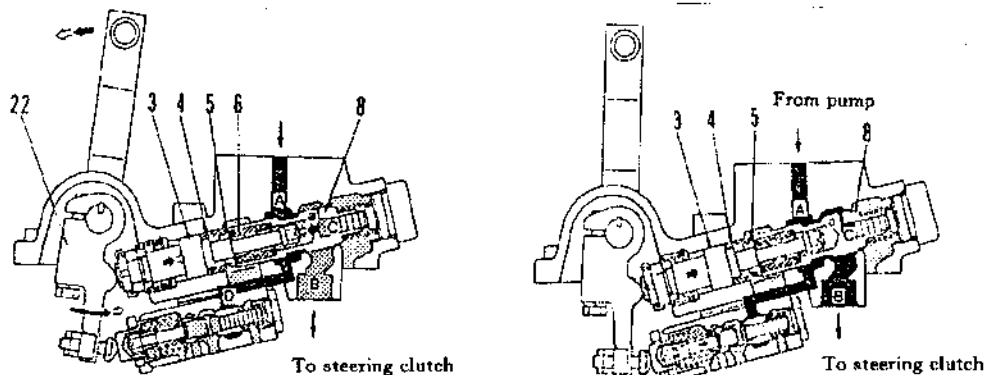

Fig. 2-73
(3) When the oil pressure at the steering valve rises to the maximum value:
When the steering lever is pulled further from state mentioned in paragraph 2, stopper (5) comes into contact with steering valve (8) and spring (6) assumes the minimum installation height. In this state, shaft (3) starts to push steering valve (8) via spring (4) so that the force required to operate the steering lever rises sharply. When the steering lever is pulled further, shaft (3) compresses spring (4) to gradually increase the installation load and the oil pressure in the circuit after port B. When the installation load of spring (4) is maximized and the oil pressure in circuit reaches 1.57 MPa, the clutch is released entirely (as shown in Fig. 2-73).